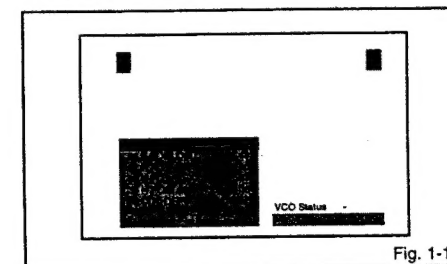

Fig. 1-1
1. In the condition of NO indication on the screen. Press the VOL. DOWN button on the set and the Channel button (9) on the remote control for more than 2 seconds to appear the adjustment mode on the screen as shown in Fig. 1-1.
4. Activate the adjustment mode display of Fig. 1-1 and press the channel button (01) on the remote control to select "RF AGC".
3. Activate the adjustment mode display of Fig. 1-1 and press the channel button (00) on the remote control to select "CUT OFF".